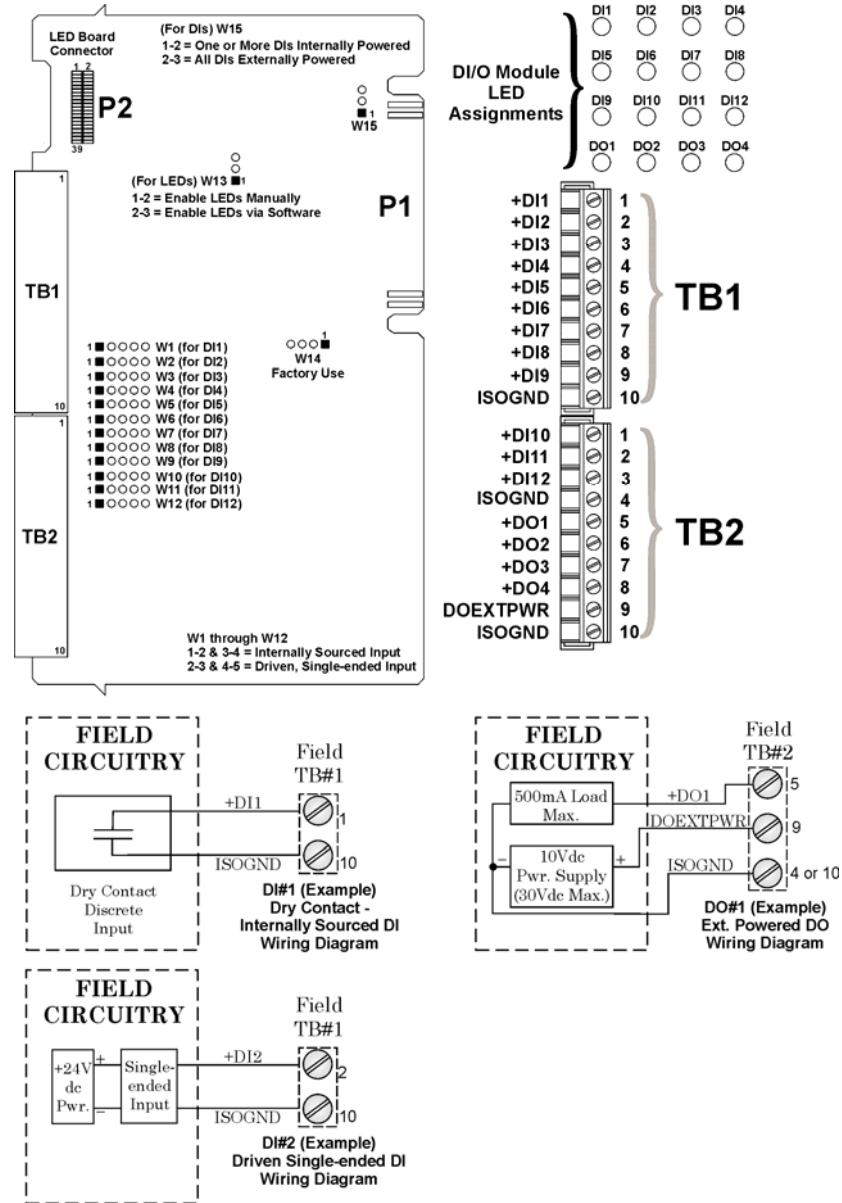

Figure 3-26. Isolated DI/O Module Wiring (Local Termination)
**Wiring the Module** *Figure 3-26* shows field wiring assignments for a locally terminated isolated DI/O module.